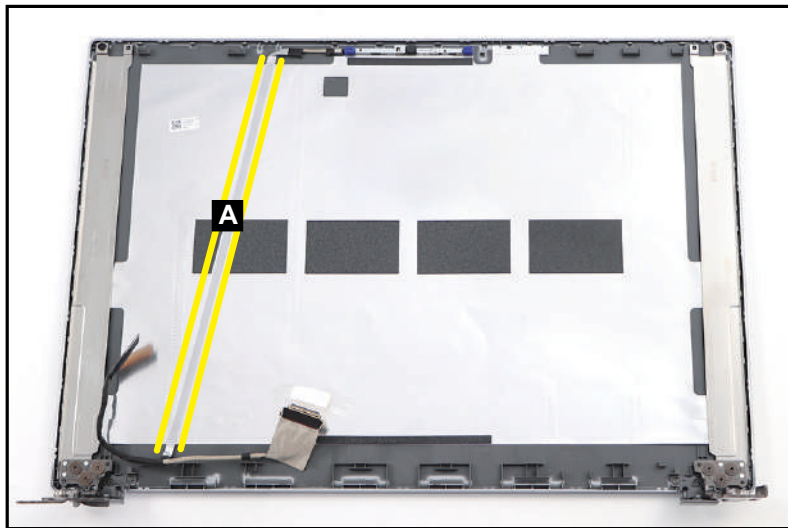

Figure 3-80. LCD Cable Removal
1. Unroute the LCD cable (A) from the cable guides on the LCD cover as shown in Figure 3-80. Carefully detach the cable from its underneath adhesive.